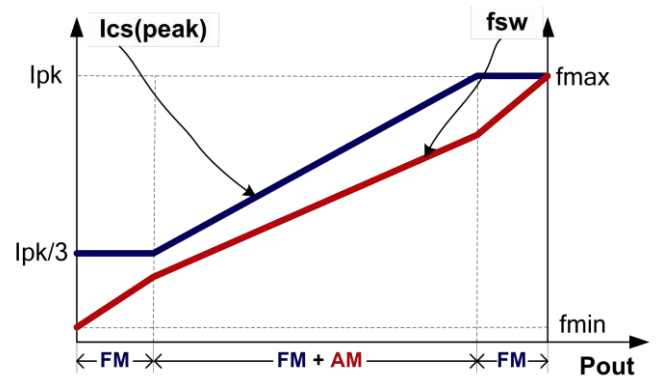

Fig.4
To meet the tight requirement of averaged system efficiency and no load power consumption, a hybrid of frequency modulation (FM) and amplitude modulation (AM) is adopted in CY302X which is shown in the Fig 4.